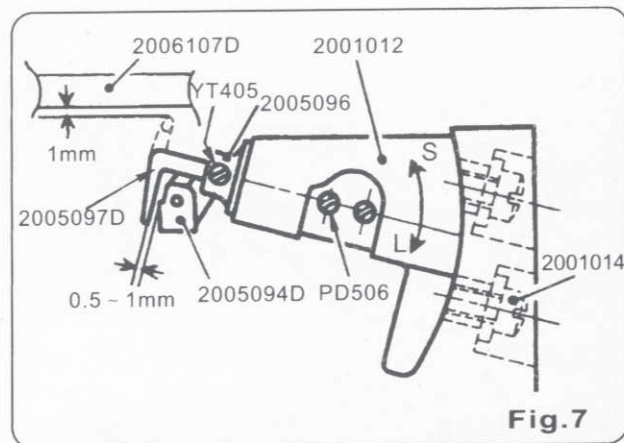

Fig.7
○ If the clearance does not fall within the specified range, loosen screw (2001014) of looper shaft bearing (2001012), as shown in (Fig. 7), and move up looper shaft bearing (S) to make the clearance smaller or move it down (L) to make the clearance larger. Firmly tighten the screw of looper shaft bearing after the adjustment.
Thread retainer (2005097D) has to catch the looper thread before lower looper (2005094D) enters the needle thread loop. It is to be adjusted so that the clearance between thread retainer and lower looper is 0.5 to 1mm when the retainer begins its upward movement and lower looper is at its farthest right position. For this adjustment, loosen screw (YT405) of the retainer and move the retainer as necessary (Fig. 7). Loosen screw (PD506) of spreader lever (2005095) and turn spreader lever shaft (2005096) as necessary, so that the clearance between the point of the retainer and throat plate (2006107D) is 1mm at the time when the retainer is facing upwards to its full extent.